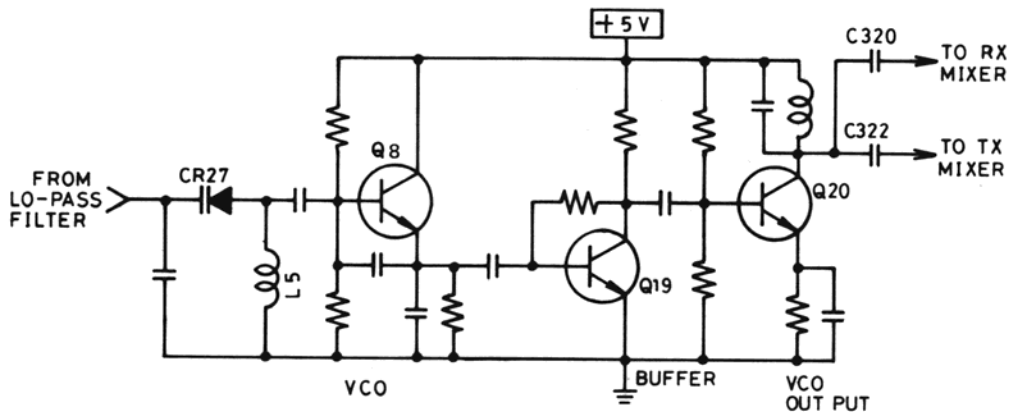

Figure 3-3 VCO Circuit
**3.3.2 Voltage-Controlled Oscillator (Figure 3-3)**